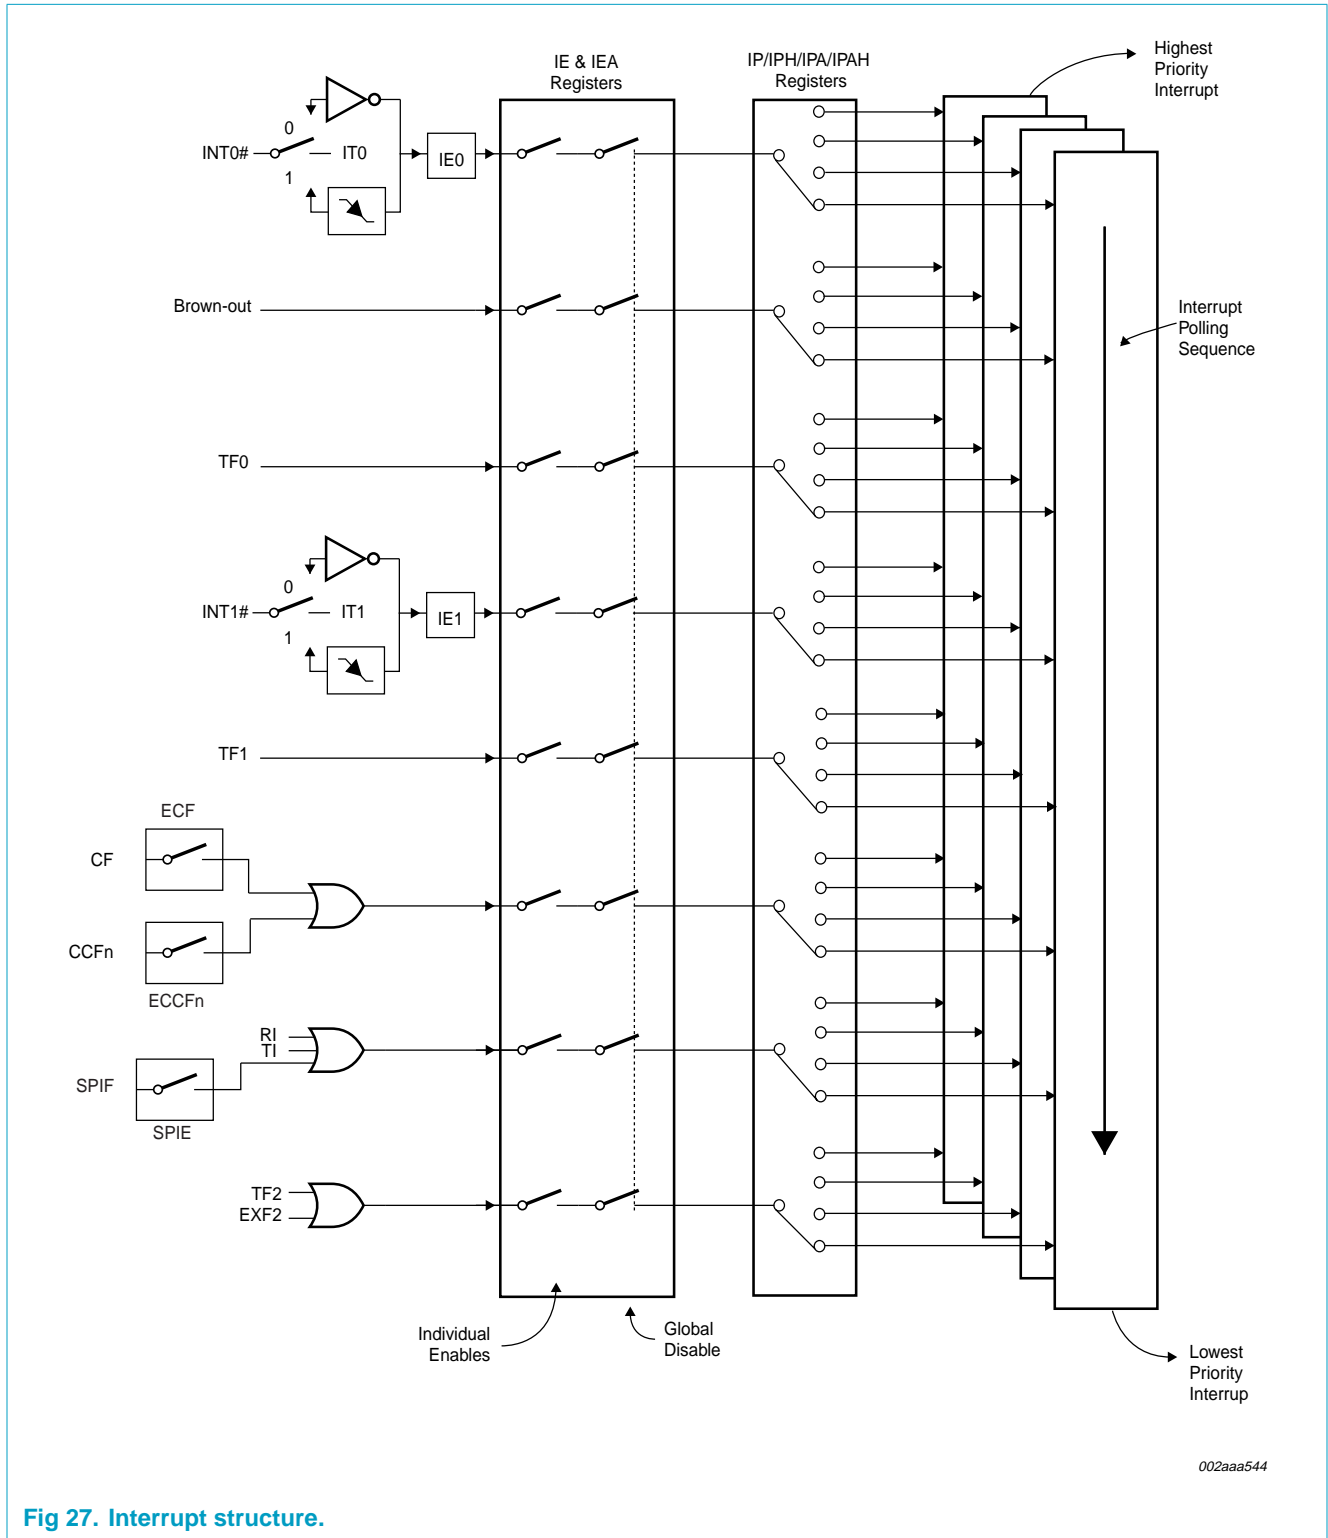

Fig 27. Interrupt structure.
**Table 45** summarizes the polling sequence of the supported interrupts. Note that the SPI serial interface and the UART share the same interrupt vector. (See **Figure 27**).